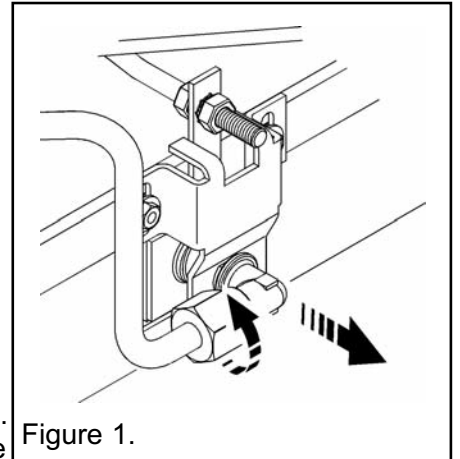

Figure 1.
- 4) Remove the injector by undoing the union nut between the manifold pipe and injector. Remove the pipe from the injector and unscrew the injector from the retaining bracket – see figure 1.